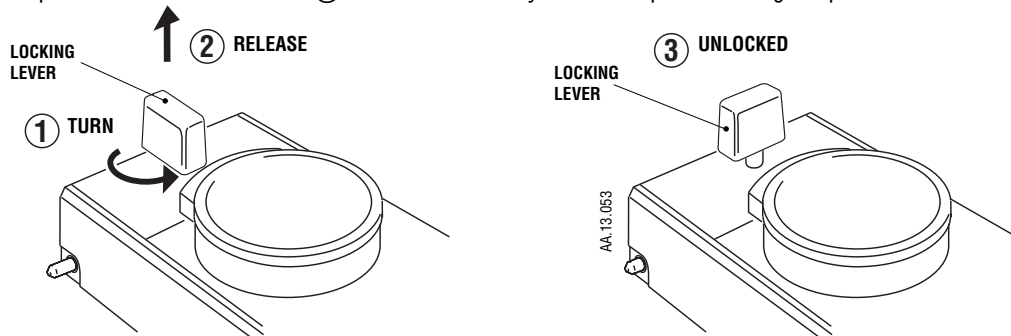

Fig. 5 Unlocking The Vaporizer From A Manifold
2. Referring to Fig. 5, unlock the vaporizer from the manifold by turning the locking lever counter-clockwise to the unlocked position. Release the locking lever, check that the locking lever springs up to the unlocked condition and then carefully lift the vaporizer straight up and off the manifold.